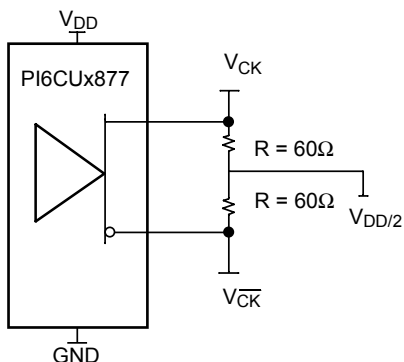

Figure 1. IBIS Model Output Load
16. The Output slew rate is determined from IBIS model load shown in Figure1. It is measured single-ended.